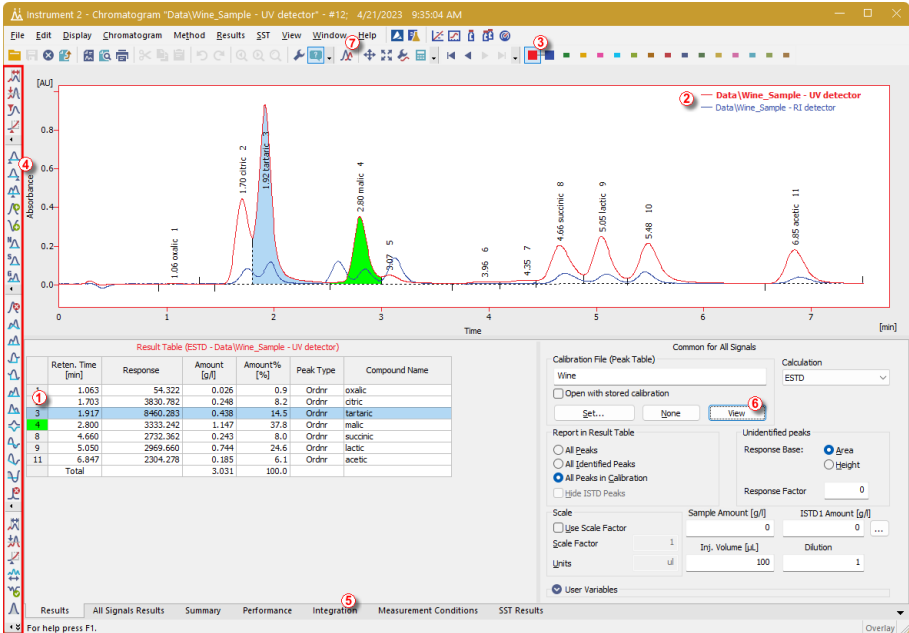

Fig. 15: The Chromatogram window
- Multiple chromatograms may be displayed at once. Switch to the *Overlay* mode by pressing the *Overlay* button found on the *Overlay* toolbar ( ⑦ in Fig. 15 on pg. 25.) and then open all reprocessed chromatograms altogether. You can click the *Overlay* button again to close all the chromatograms except the currently active one.